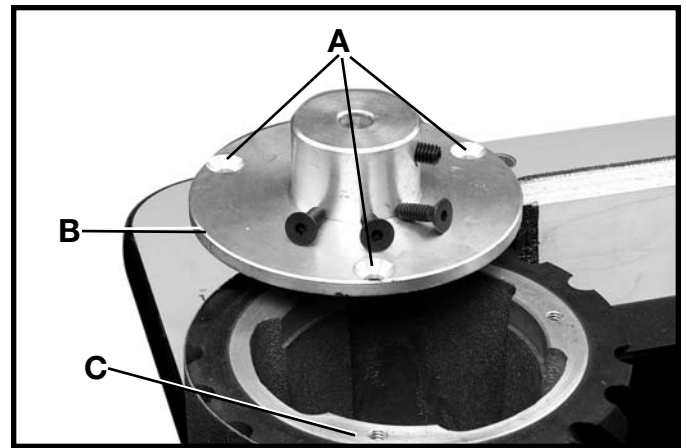
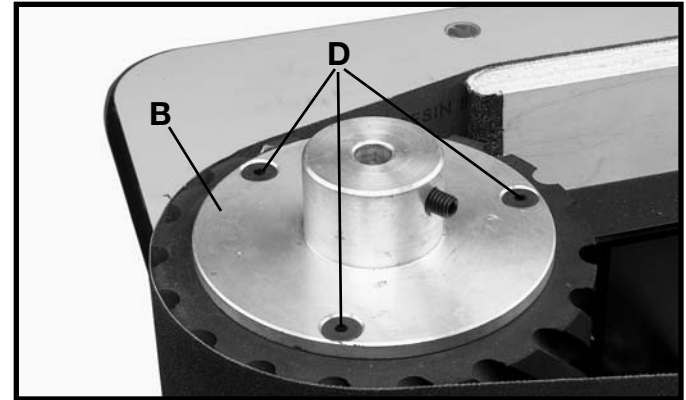

Fig. 11
Fig. 12
2. Align the three holes (A) Fig. 11, in adapter plate (B) with three holes in top of drive pulley (C) and fasten adapter plate (B) Fig. 12, to drive pulley with three 5/16-18 x 3/4" long flat head screws (D).